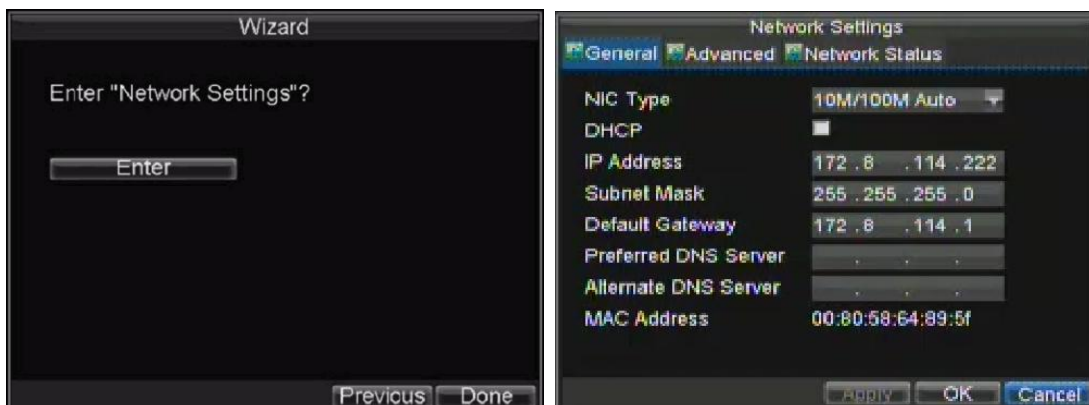

Figure 8. Network Settings
15. Click the Next button. This will take you to the **Network Settings** window, shown in Figure 8.